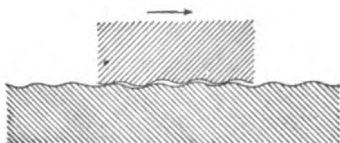

FIG. 1.
**7. Cause of Friction.**—Friction between two bodies is due to the roughness and unevenness of their surfaces, hence, the smoother the surface, the less the friction will be. However, two bodies may have polished surfaces, and, to the naked eye, may appear perfectly smooth, yet, when placed under a powerful magnifying glass, they will be seen to have minute elevations and depressions that fit into one another somewhat as shown in Fig. 1. When one of these bodies is made slide over the other, these elevations are either ground off or flattened down. In either event, a resistance to the movement is offered, the amount of which will depend on the roughness of the surfaces.